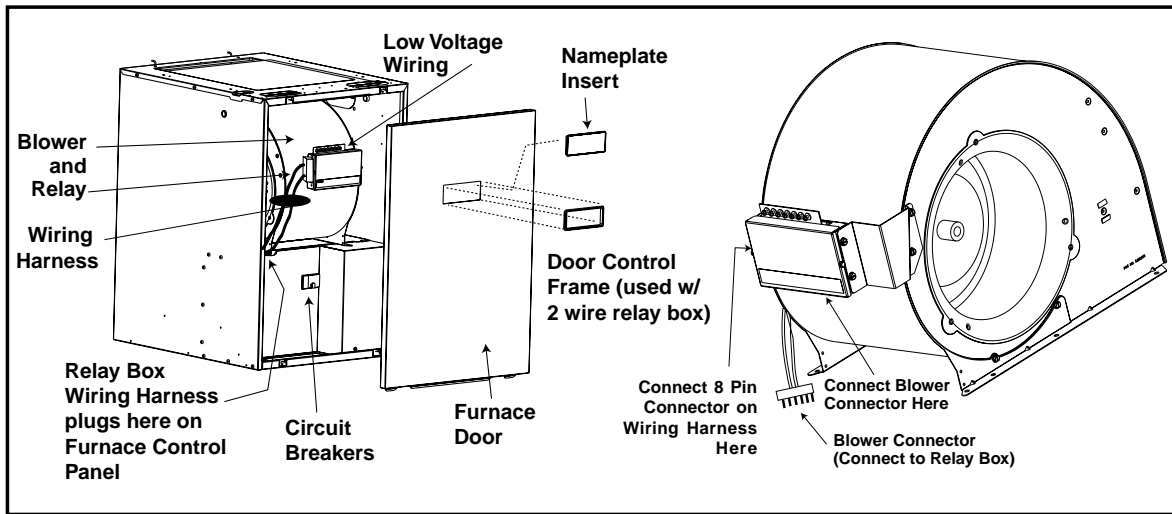

Figure 2. E2E(-) Series Electric Furnace, manufactured prior to 1999
- E1 and E2 furnace models manufactured prior to 1999 only:* Attach the appropriate brand label to the sheet metal cover so that it may be seen through the door control frame (see Figure 2) in the furnace door when it is replaced.